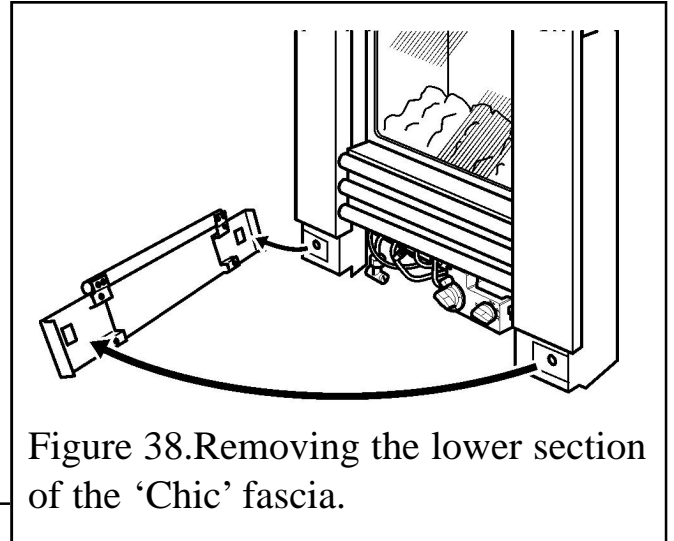

Figure 38. Removing the lower section of the 'Chic' fascia.
- The lower section of the fascia is secured with magnets. Remove this by pulling clear of the fascia (See figure 38).